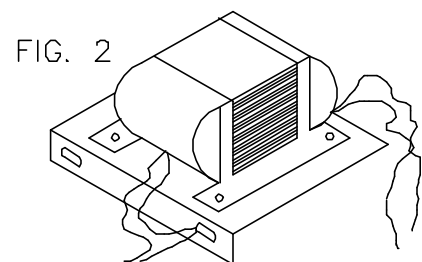

FIG. 2 - SINGLE POINT TRANSFORMER
5. **480V models with single point transformer** - This part can be externally mounted or internally mounted inside the air handler cabinet (see fig. 2). Autoformer wiring is color coded (see schematic for color coding) and is to be used on 480V heaters being wired into 208/240 Volt, single phase Air Handlers.